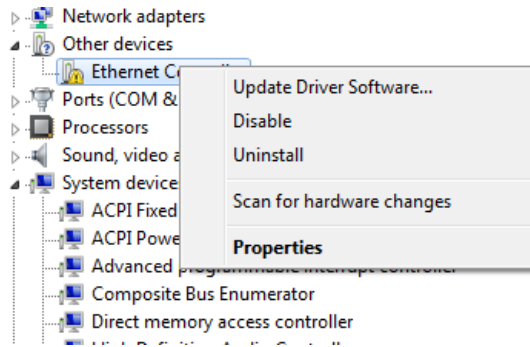

Figure 27. Device Manager Window: Ethernet Controller
3. On the Device Manager Window, right click **Ethernet Controller** and select **Update Driver Software**. See Figure 27.